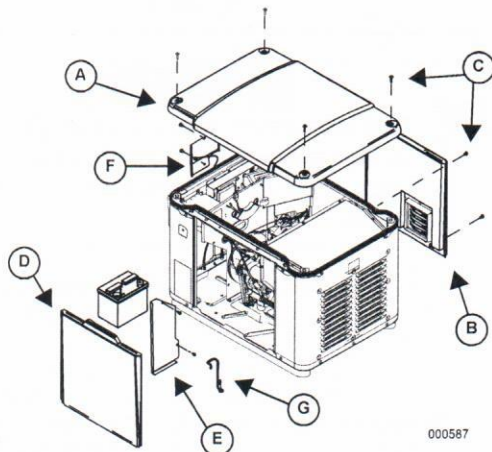

Figure 1.
3. Remove roof (A), back panel (B), and retain fasteners (C). Unhook and remove front panel (D). Remove battery access panel (E) to gain access to battery. Also, remove electrical access panel (F) to access wiring. (See Figure 1).